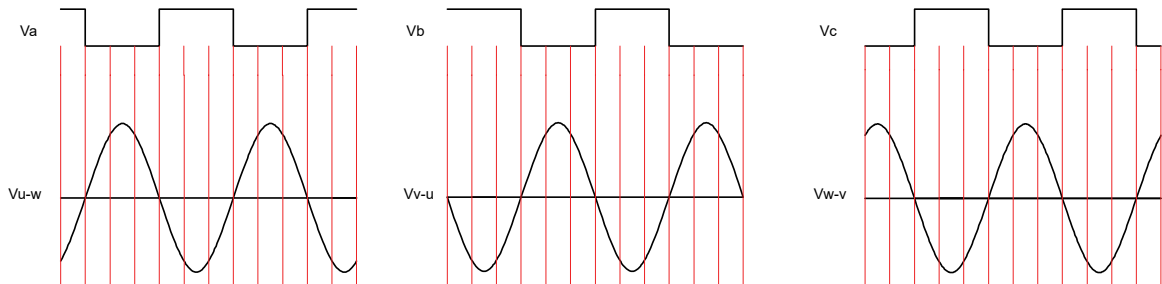
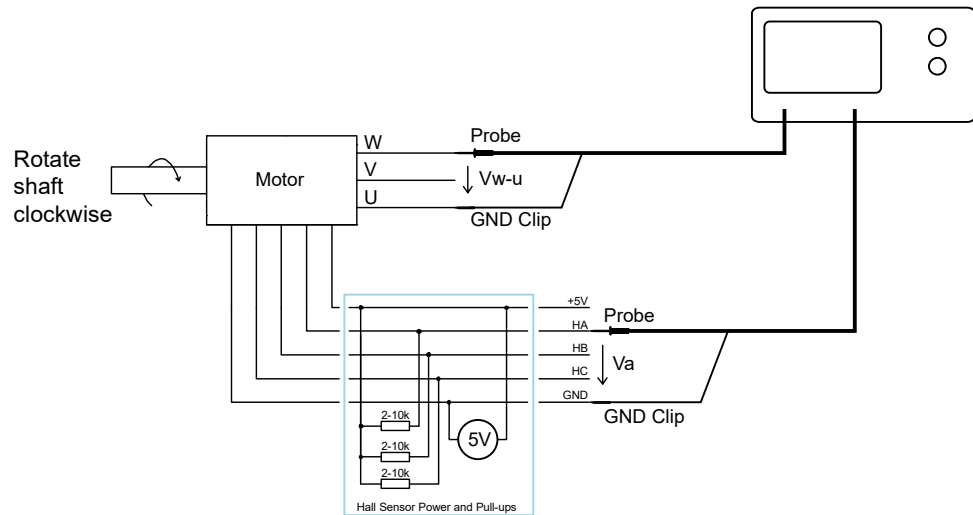

FIGURE 8-4. Relation between hall sensor and U V W windings
FIGURE 8-6. Use an oscilloscope and the circuit in figure to place the probes and generate these signals
V. See figure 8-4. The sine wave voltage will be inverted when turning the motor in the opposite direction.
The most precise evaluation of the Hall Sensors alignment is done using an oscilloscope and the circuit described in figure 8.6. Compare the shape of the Hall Sensor signal to this of the voltage that is generated on the motor phases as the shaft is rotated by an external force. Verify that the zero-crossing of the phase voltages is occurring at exactly the same time as the Hall Sensor transitions, as shown in figure 8-4.